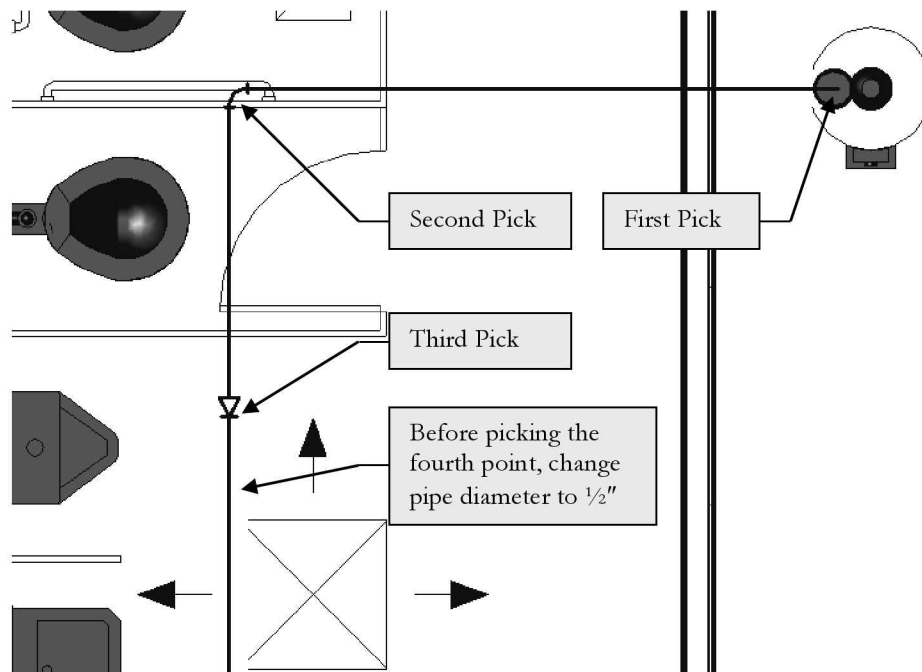

FIGURE 13-5.6 Hot water piping added
Now you need a vertical pipe up to 9'-8", which is the height the hot water piping will run above the ceiling. Revit will automatically draw this vertical pipe for you when clicking away from the water heater (i.e., "second pick" in Figure 13-5.6).
17. Pick points 2 and 3 as shown in Figure 13-5.6; make sure the *Diameter* is **3/4"** and the *Offset* is still **9'-8"** on the *Options Bar*.